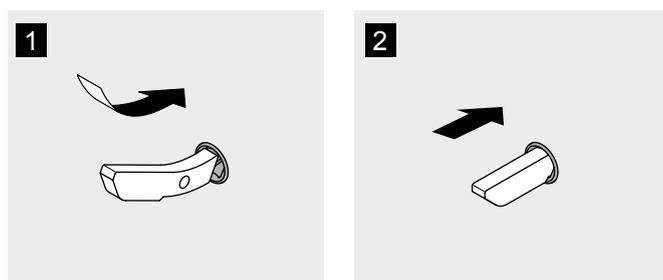

Fig. 23: Inserting a shelf support
1. Hold the shelf support at a slight upward angle and insert it into the holder (Fig. 23/1).
2. Make sure that the shelf support is inserted into the holder as far as it will go (Fig. 23/2).